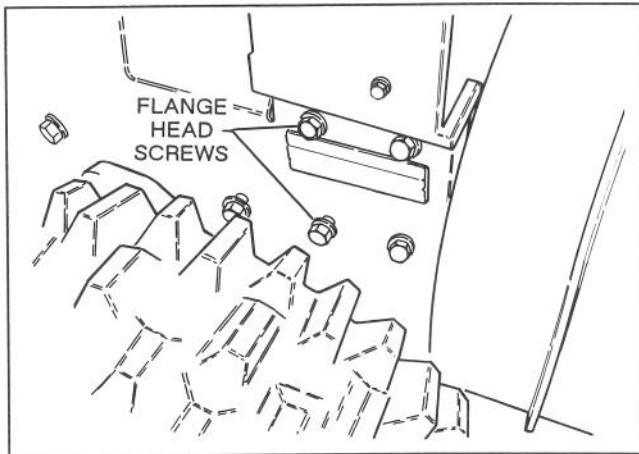

Figure 11
18. Remove and discard two flange head capscrews securing idler pulley assembly to engine frame as shown (Fig.11).